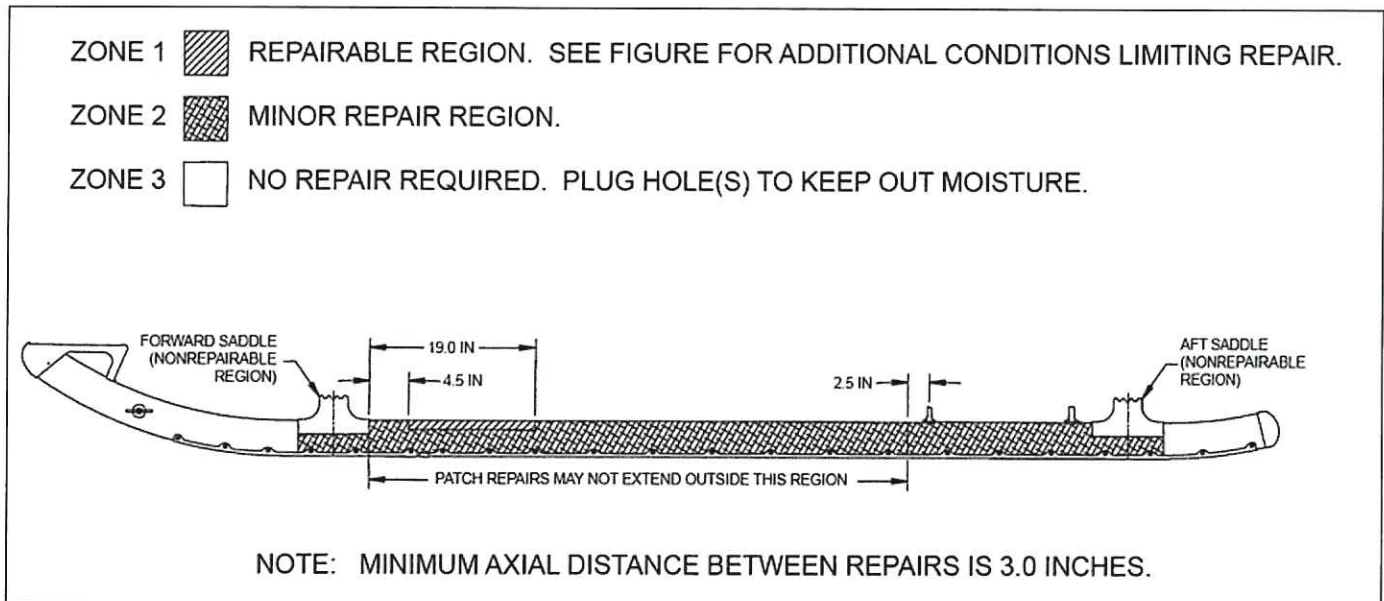

Figure 2. Skid Tube Damage and Repair Zones
1. Visually inspect Skid Tubes and Skid Shoes for excessive wear, scratches, nicks, dents, cracks, holes, corrosion, and security of attachment. Refer to Table 1 for damage and repair limits and to Figure 2 for damage and repair zones. The minimal axial distance between repairs is 3.0 inches. If the damage limits are exceeded the skid tube must be replaced. Refer to Section 3.4 for repair.